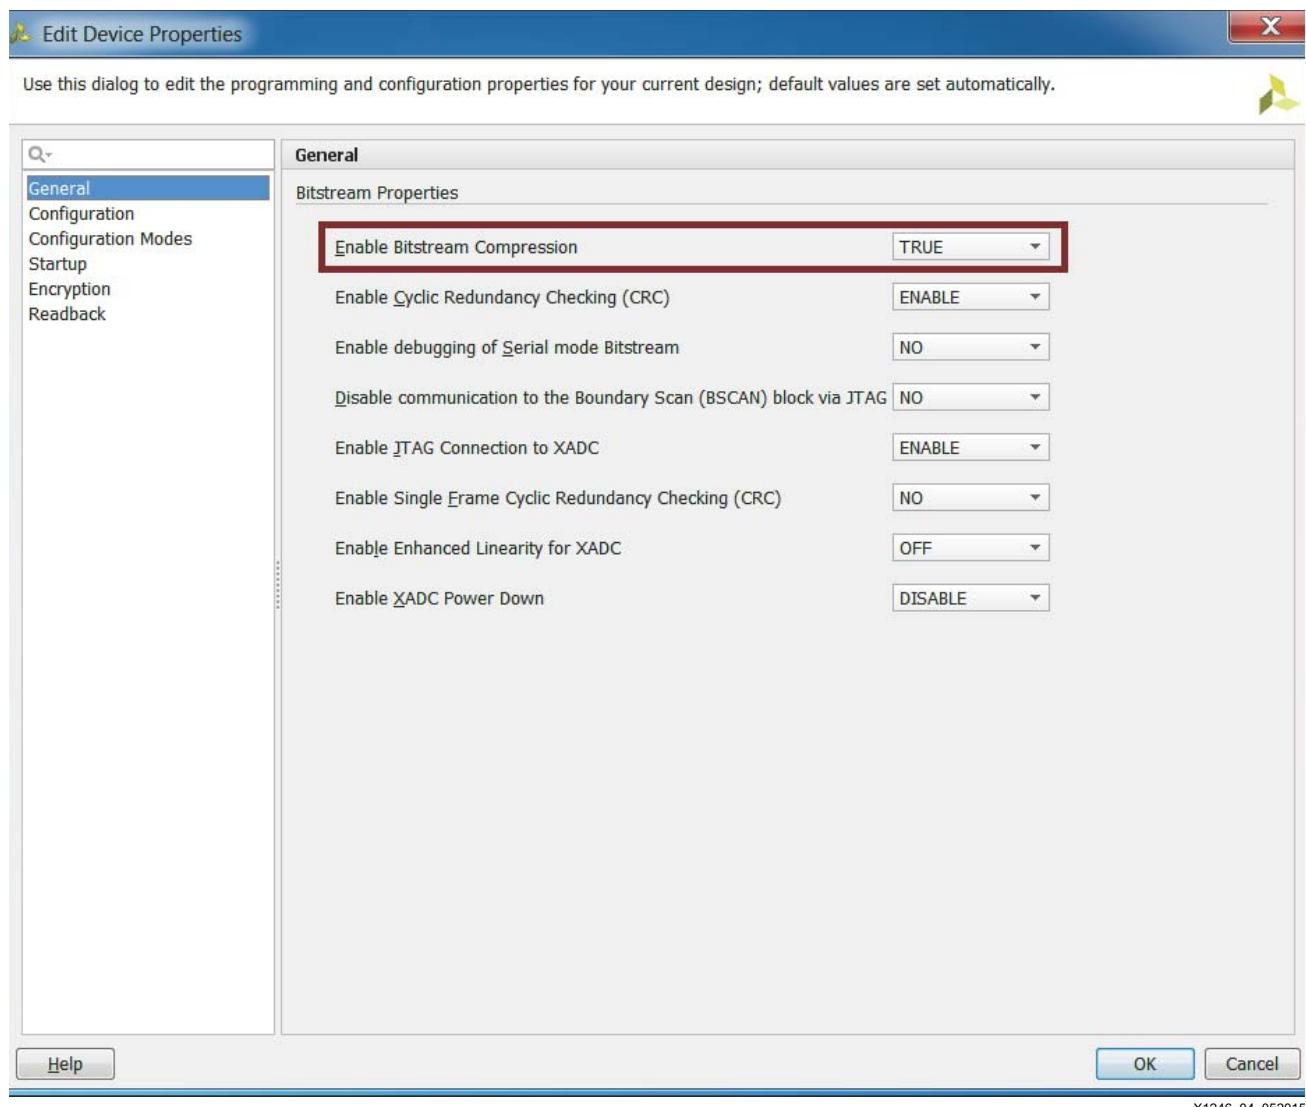

Figure 4: General Bitstream Properties
3. Under **Edit Device Properties/General**, set Enable Bitstream Compression by selecting **TRUE** from the drop-down options, as shown in Figure 4.